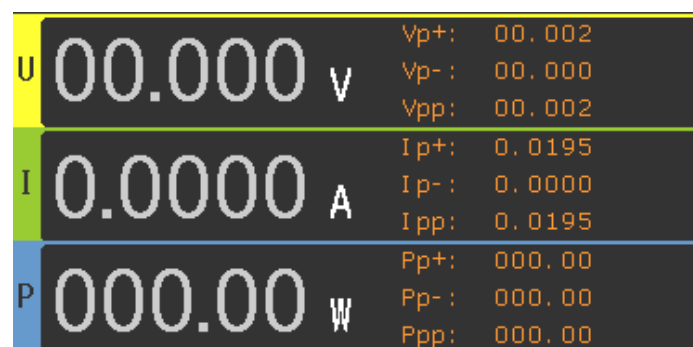

Figure 4-1
****U,I,P PPon:** as shown in Figure 4-1, display voltage, current, power, peak value, ripple value